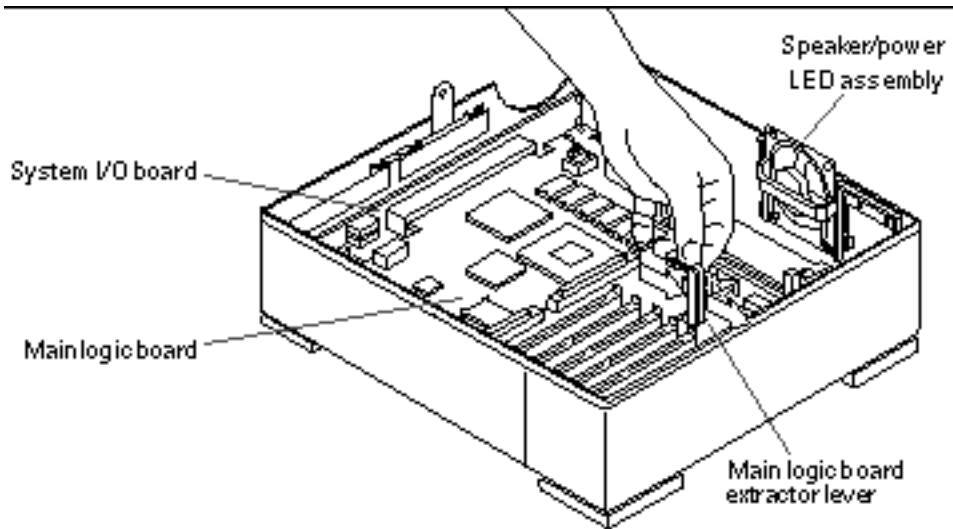

Figure 11-15 Extracting the Main Logic Board
- a. **Pull the MLB (main logic board) extractor lever toward the front of the system unit to disconnect the main logic board from the system I/O board (see Figure 11-15).**